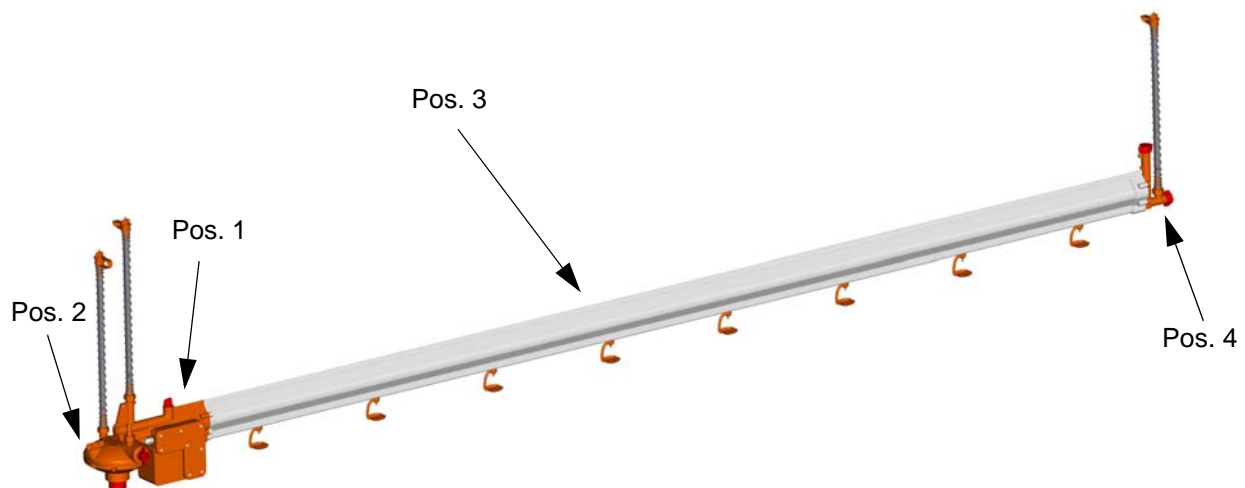

Fig. 1: DuoFlow drinking line
The drinking water circulates in two lines within the drinker elements (fig. 1, pos. 3). In the upper line section the pump conveys the water to the end of the line, in the lower line it flows back to the circulation unit (fig. 1, pos. 1). The pressure regulator (fig. 1, pos. 2) ensures that the water always continues to run corresponding to the consumption of the birds.